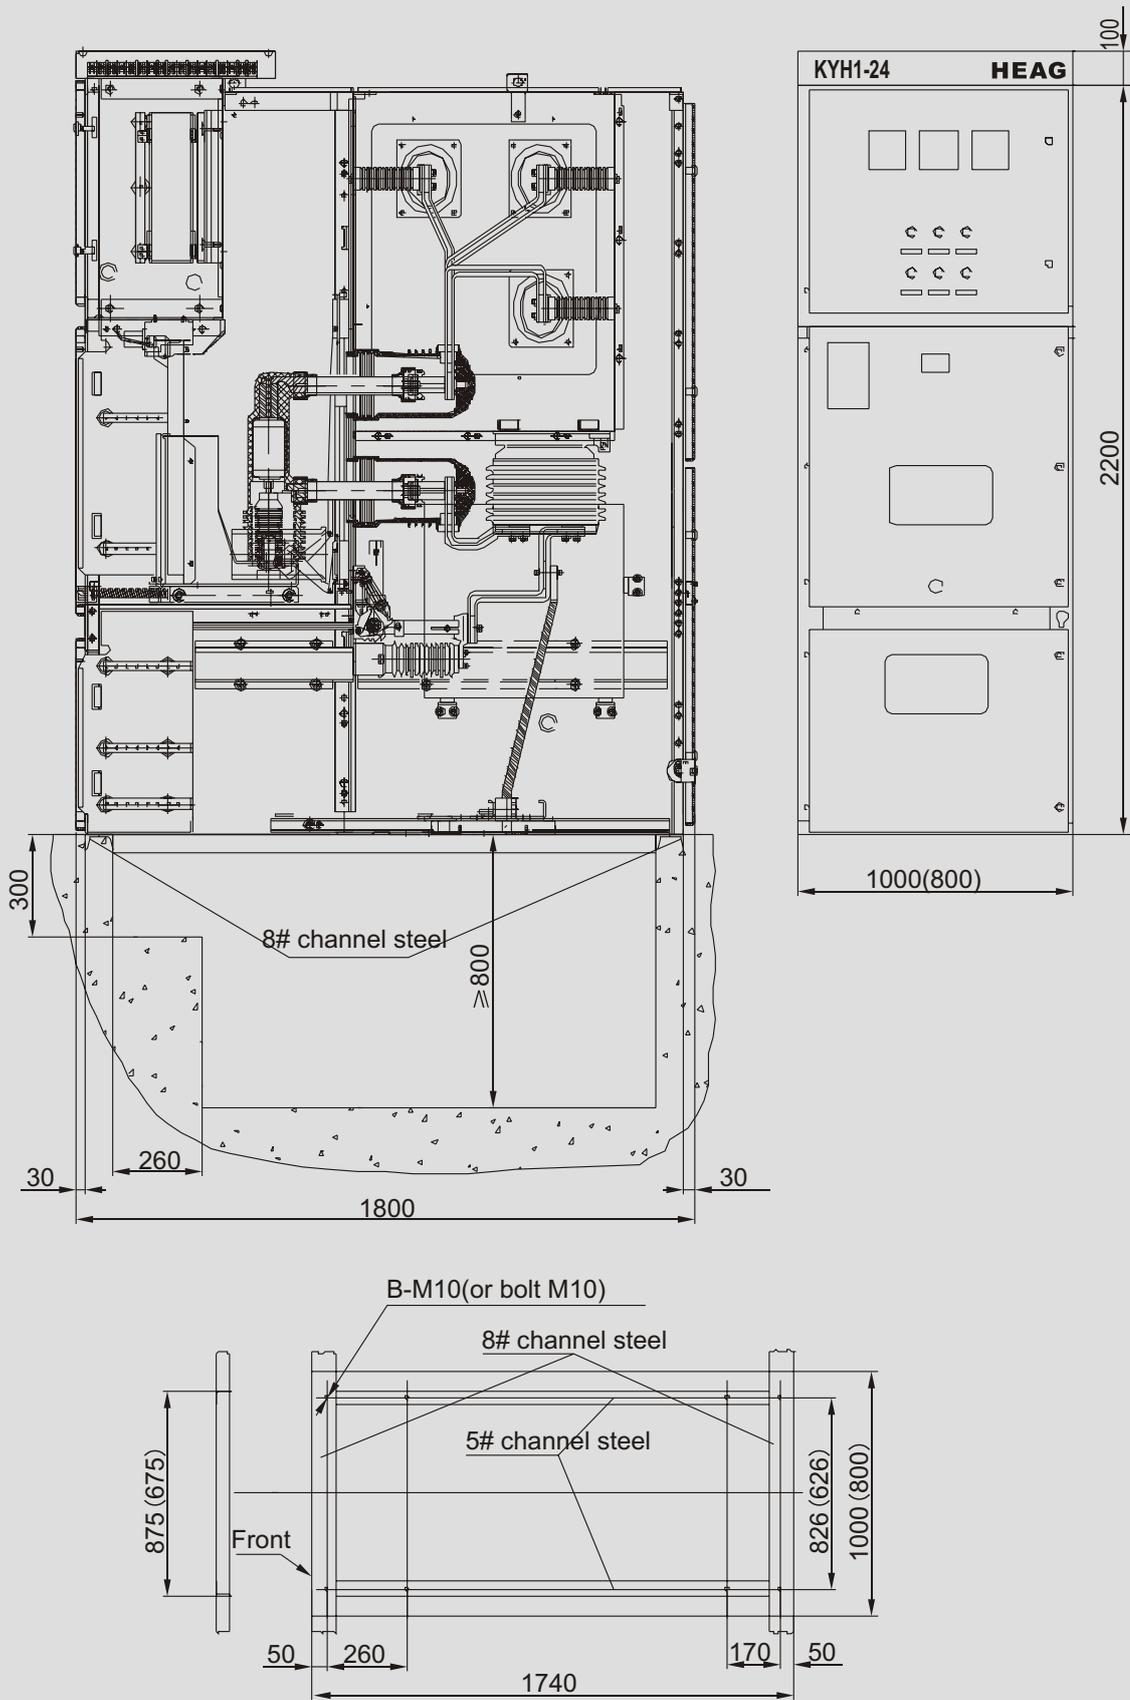

Fig. 2 Sketch of Installation Foundation
6.3 Foundation structure as per Fig.2.